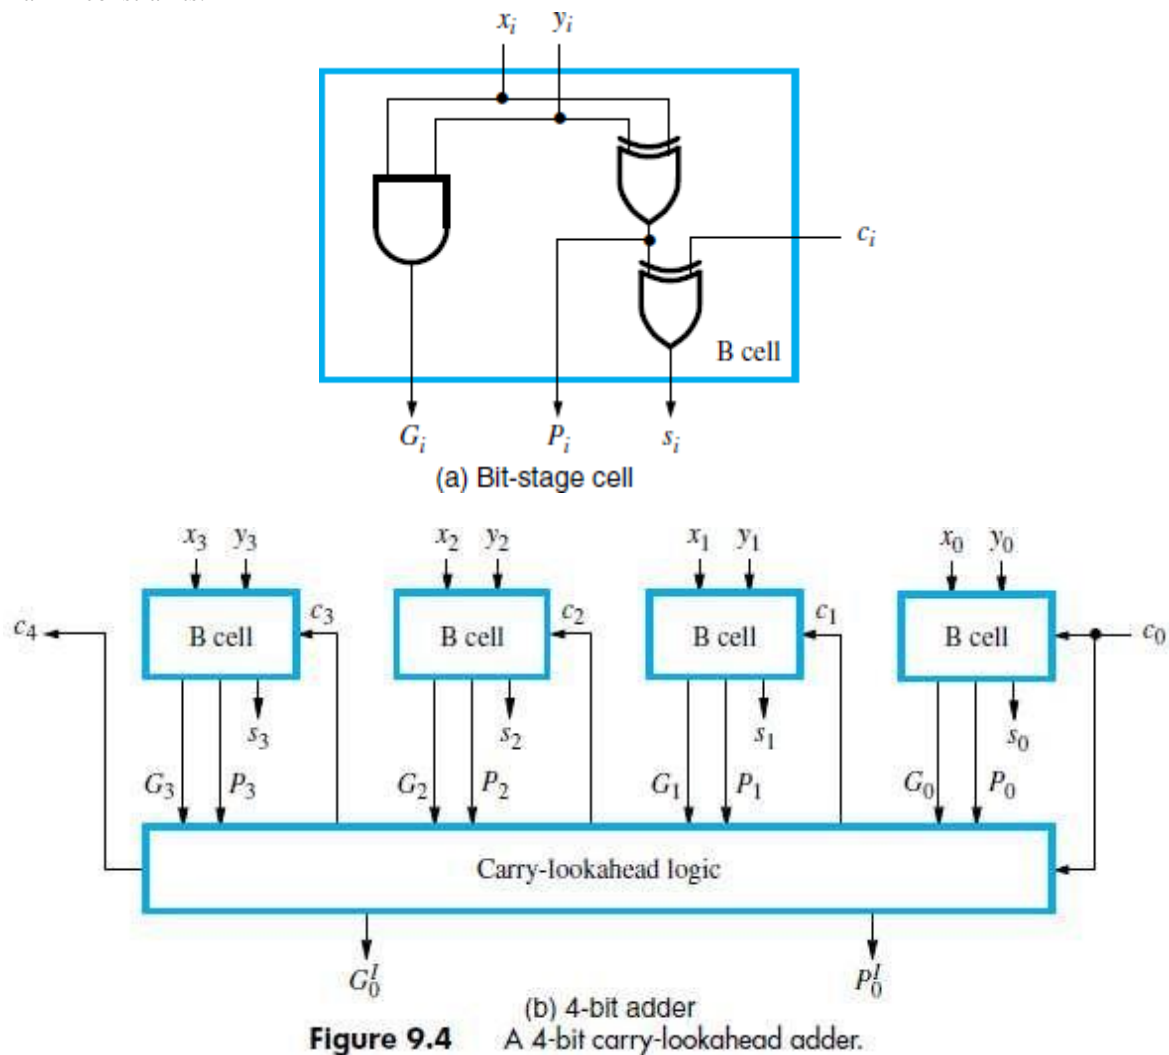

Figure 9.4 A 4-bit carry-lookahead adder.
- The expressions G_i and P_i are called generate and propagate functions (Figure 9.4).